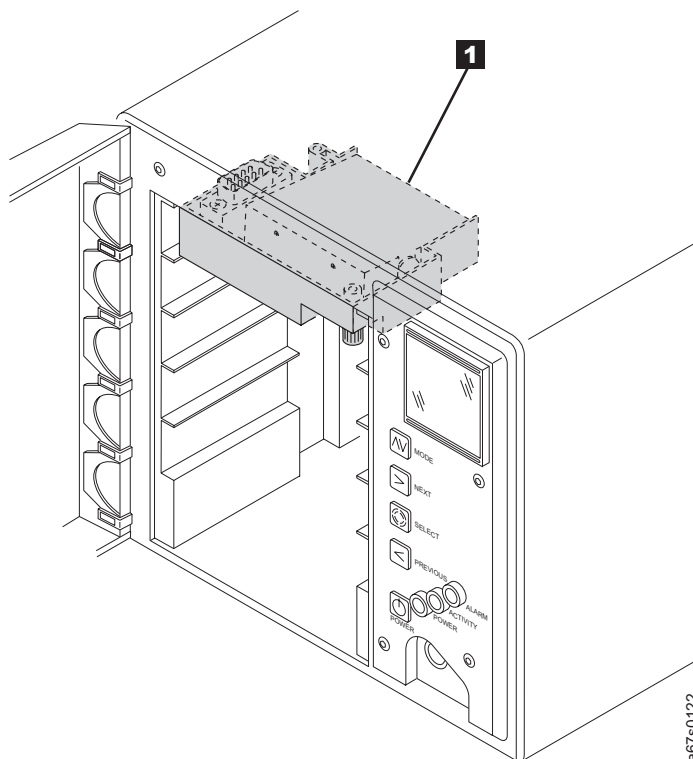

Figure 27. Cleaning the lens of the bar code reader. The lens is located at the rear of the installed bar code reader.
1. Wipe the lens of the bar code reader with a lint-free cloth (see **1** in Figure 27). Retry the operation.